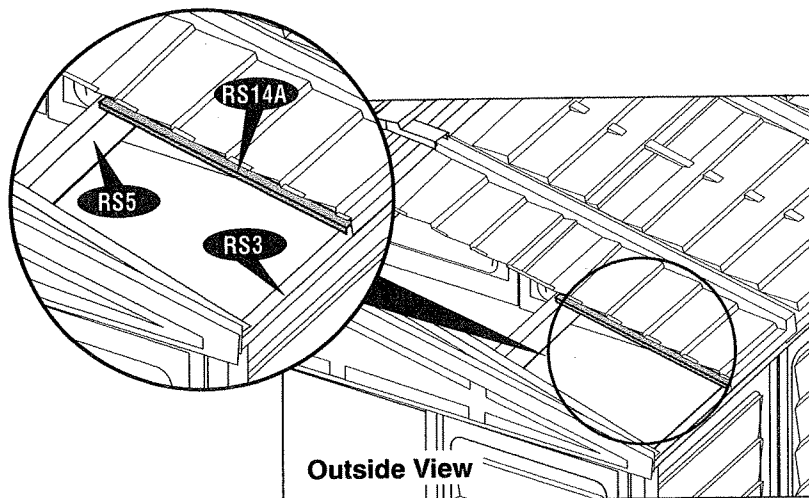

Fig. 1
7. Insert the sagging support (**RS14A**) from inside the shed by sliding in between roof structure (**RS5**) and roof panel until it reaches (**RS3**) roof structure for each panel. See fig.1.